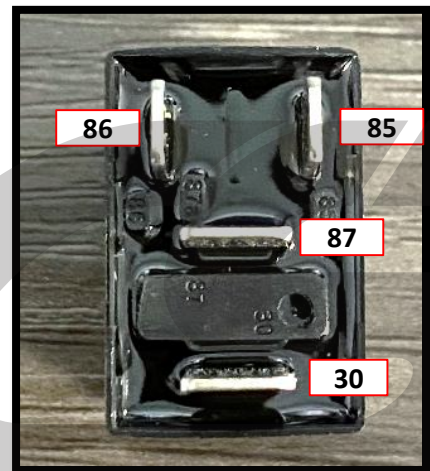

Figure 15b
- c) **Figure 15b** shows the numbered terminals of the relay. Use this for future reference.